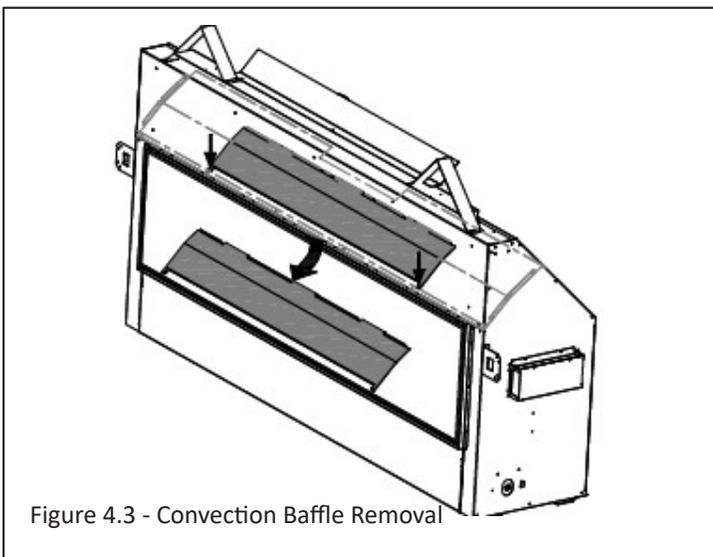
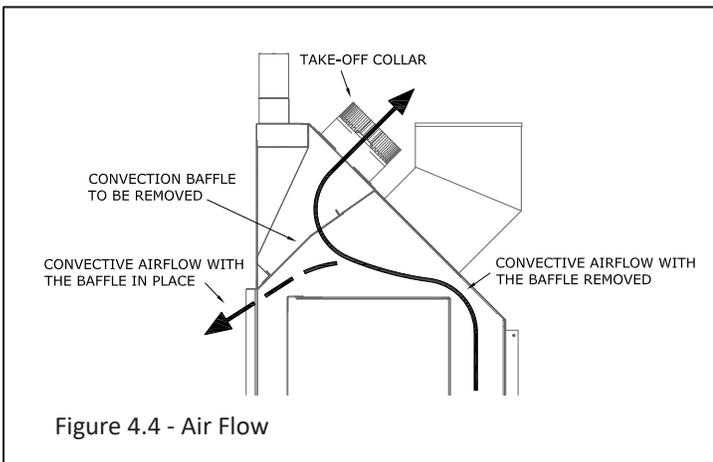

Figure 4.3 - Convection Baffle Removal
Figure 4.4 - Air Flow
3. Locate the convection baffle as shown in Figure 4.3. There are (2) screws that secure the convection baffle. Remove the screws and convection baffle from the fireplace. Discard the screws and convection baffles. Also See Figure 4.4.